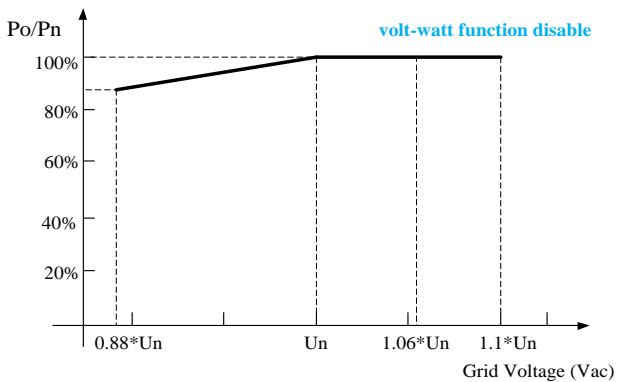

Figure 10-3-1 SCA25KTL-DO/US-208 Derating Curve of Grid Voltage
1) When volt-watt function disable, the grid voltage is within 100%~110% ($U_n \sim 1.1 \cdot U_n$) of the Rated Output Voltage, the inverter output power (P_n) may reach 100%. When the grid voltage is lower than the Rated Output Voltage, the inverter will limit the AC Output Current and the output power (P_n) will begin to derate. shown in Figure 10-3-1.